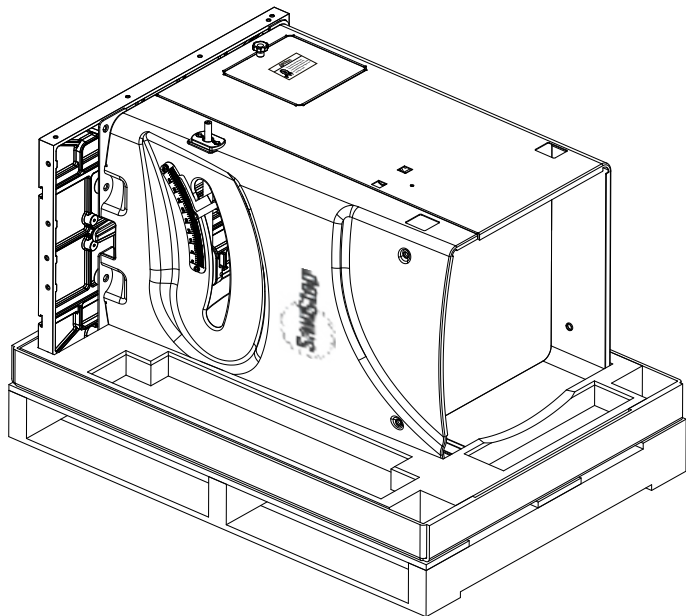

Fig. 1
- 1. Your saw is shipped horizontal to protect it from tipping during transit. To stand up your saw, first remove all packing materials and accessories from the shipping pallet (see Fig. 1). There is a poster that ships with the saw that shows where all of the accessories are located in the packaging.